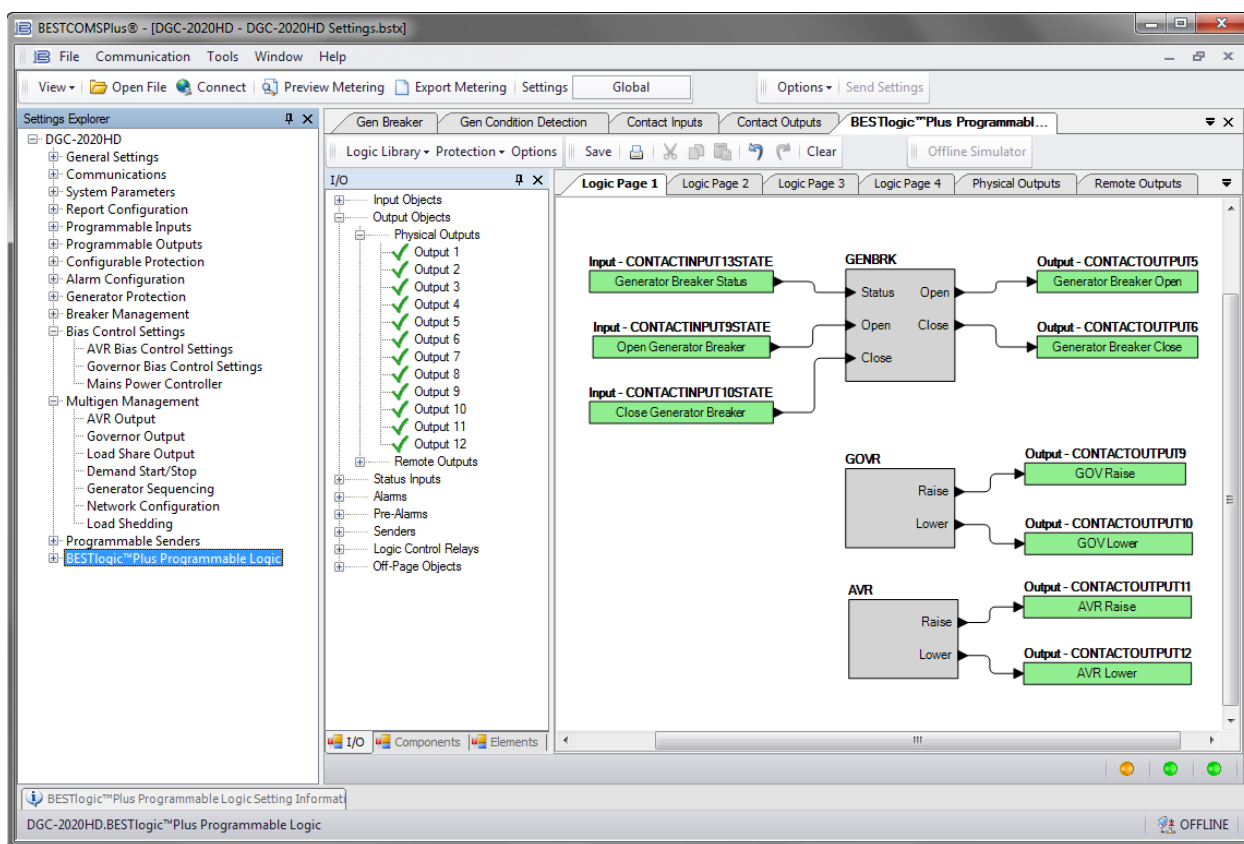

Figure 109. Synchronizer Setup in BESTlogicPlus Step 28
28. Click on the I/O tab and drag the outputs assigned in step 4 into the main logic screen. Connect the GOVR and AVR blocks to the appropriate output contacts. See Figure 109.